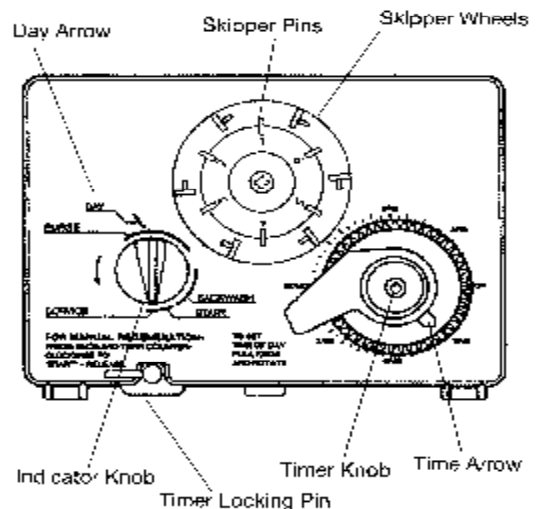

Figure 4
**Note:** The following steps will require you turning the pointer knob, (Figure 4), to various positions. Insert a wide blade screwdriver into arrow slot in pointer knob and press firmly. With the knob held in, rotate COUNTERCLOCKWISE only until arrow or knob points to desired position. (Rotation is made much easier if you grasp the camshaft with your free hand and turn it at the same time). Then permit the knob to spring back out.
2. Insert screwdriver into slot in pointer knob, (Figure 4). Press in and rotate knob COUNTERCLOCKWISE until arrow points directly to the word BACKWASH.
1. Set days of regeneration on skipper wheel (Figure 4).